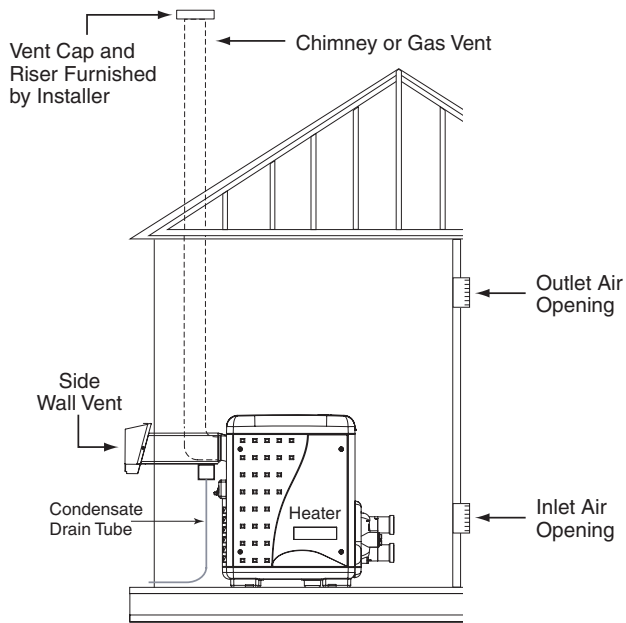

Figure 22
## **HORIZONTAL OR VERTICAL VENTING - USING SINGLE-WALL STAINLESS GAS VENT (SEE FIGURE 22, 23, & 24 ON PAGE 19)**
6. **Vent Termination – Vertical** (See Figure 22, 23, & 24), for height of vent termination above the roof. Use an "Approved" vent terminal specified by local and national codes and your manufacturer's instructions. A roof termination must be vertical.